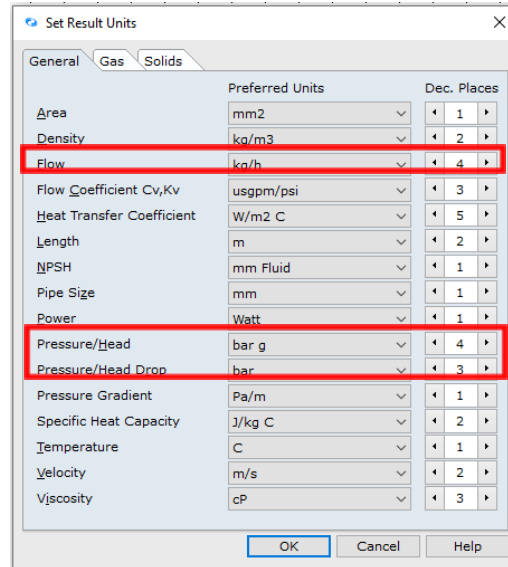

Figure 24: Modified Set Result Units Dialogue Box.
23. The Set Result Units dialog box should now look like the screenshot given below (Figure 24). Select **OK** to apply the changes.